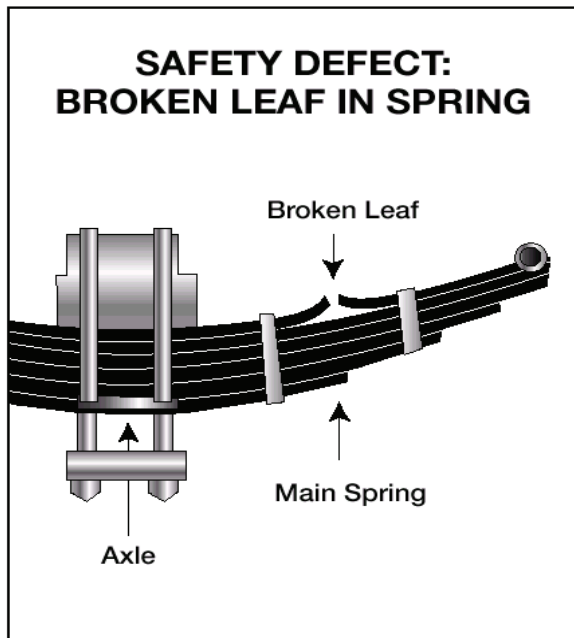

Figure 2.3
- ✓ Missing or broken leaves in any leaf spring. If one-fourth or more are missing, it will put the vehicle “out of service,” but any defect could be dangerous. See Figure 2.3.